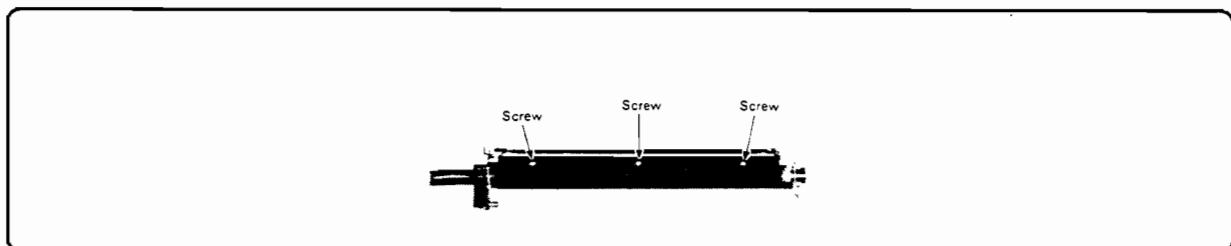

Figure 6-74. Cleaning Station Scraper Replacement
2. Remove the three screws at the bottom of the Cleaning Station assembly and remove the scraper (Figure 6-74).